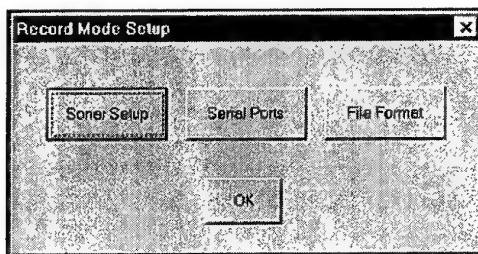
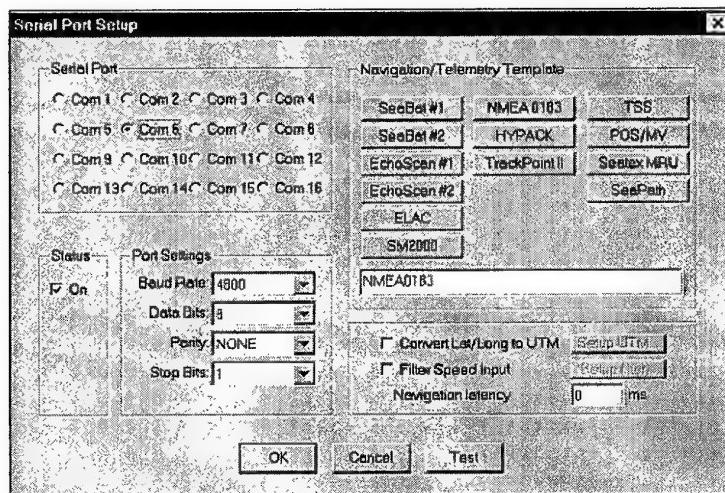
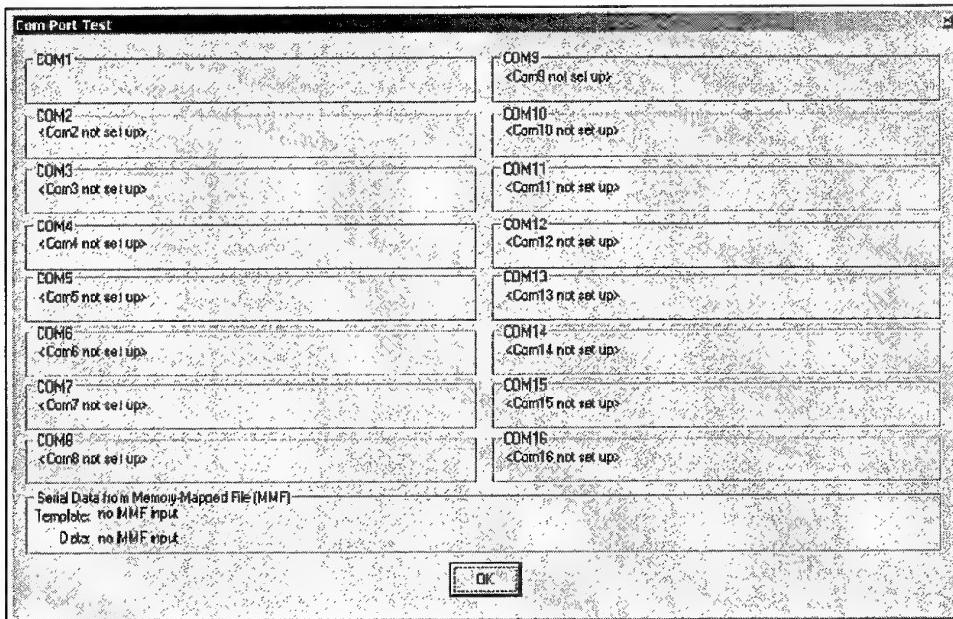

Figure 48 The Record Mode Setup window in Isis.
Figure 52 The Serial Port Setup window used in Isis.
Figure 53 The Com Port Test window in Isis.
To set up Isis so that it knows which sonar it will be acquiring data from, which data channel from the selected sonar it needs to display backscatter and which channels need to be saved to disk, click on the File menu and select the Record Setup. This will cause the Record Setup Options window (see Figure 48) to be spawned. In this window there are three choices: Sonar Setup, Serial Ports, and File Format. These three dialogue boxes are fundamental to setting up Isis ready for data collection, because they control:
The first step in configuring Isis so that it will interrogate a particular com port, decipher the data arriving on it, and then incorporate the data into the sidescan sonar data file, is to click on the "Serial Ports" tab in the Record Setup window (see Figure 48). When this is done the Serial Port Setup window is spawned (see Figure 52) and it is in this window that the settings are made.
- If data is being transmitted to the com port then it is possible to test that the settings made above will save the data appropriately. This is possible by either clicking on the Test button in the Serial Port Setup window or clicking on “Com Port Test” from the “Tools” menu in the main Isis window. This displays the Com Port Test window (see Figure 53) in which a panel exists for each com port showing the activity on it and how Isis is deciphering this activity. The panel will display “Com port not set up” if the status box for the port is not checked
- When each com port has been setup correctly click the OK button in the Serial Port Setup window (Figure 52).
Similar to testing the set up of each com port when a predefined template is used, to test that a template has been created correctly, click the “Test” button in the Serial Port Setup window (Figure 52) or select “Com Port Test” from the “Tools” menu of the main Isis window. This displays the Com Port Test window (see Figure 53) in which the data Isis is obtaining for each com port is shown. The panel will display “Com port not set up”, if the status box for a port is not checked as on, whilst for the serial ports that are checked, any data being received is displayed. If the data needing to be recorded is not being displayed then either the template has been incorrectly constructed, or the port settings have been set incorrectly.